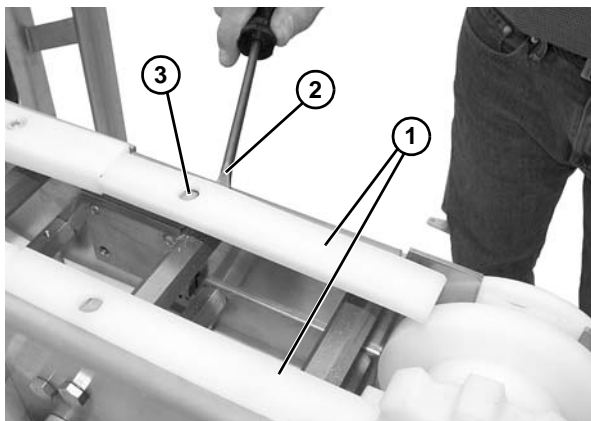

**Figure 31**
2. Using an allen wrench (**Figure 31, item 1**), remove all socket head screws (**Figure 31, item 2**). Remove upper wear strips (**Figure 31, item 3**).